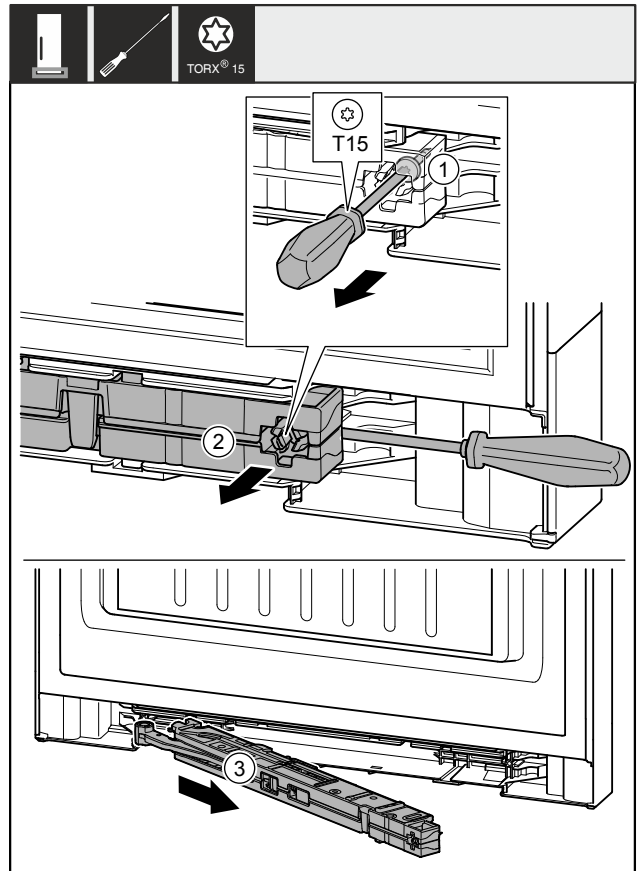

Fig. 9
- ▶ Loosen the screw Fig. 9 (1) on the closing damper unit with an approx. 14 mm (9/16 in) screwdriver.
- ▶ Use the screwdriver to lift out the closing damper unit Fig. 9 (2) on the handle side.
- ▶ Pull out the closing damper unit Fig. 9 (3).